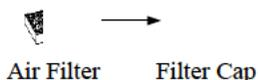

Fig. 11-1
(1) Attach the air filter to the filter cap, as shown in Fig.11-1.